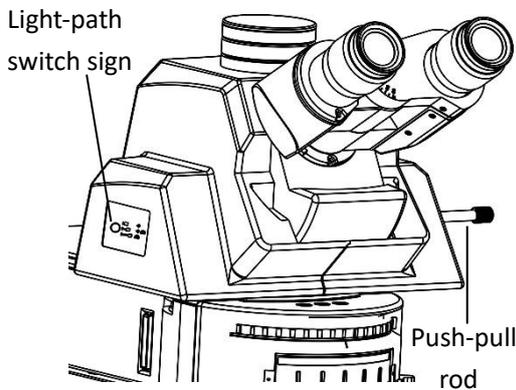

Fig.7
**3-6 Three position light-path switch (Fig.7)**
Select the desired light path and light intensity ratio as shown by Fig.7
Push-pull rod (as shown in Fig.7) is completely pushed. When binocular observing, you can use 10× objective to focus. To prevent the specimen from colliding with the objective lens, The mechanical stage should be raised, which brings the specimen close to the objective, then slowly reverse rotation of the coarse focusing wheel so that the specimen could be down, meanwhile, you can search the image in the 10× eyepiece, finally you can focus to clear with the fine focus hand-wheel. At that time even if you convert to other multiplier objective, the specimen can reach the same focus without any damage.
Push-pull rod (as shown in Fig. 7) is completely pushed. Making binocular observations, when the image is clear, then pulled it out, then it can be observed by the camera system.